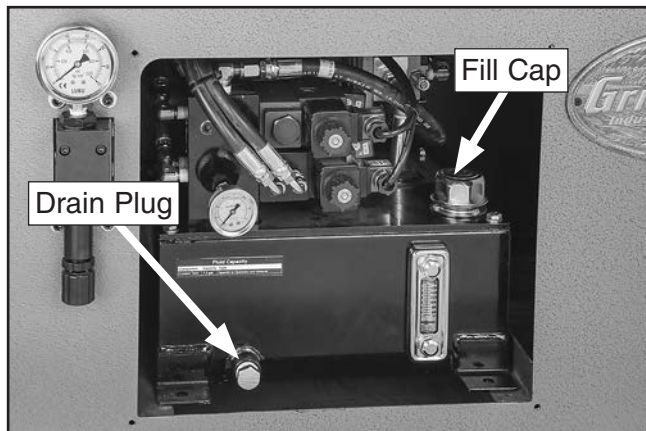

Figure 72. Drain plug and fill cap location.
5. Remove fill cap (see **Figure 72**), then remove drain plug and allow tank to empty into drain pan.